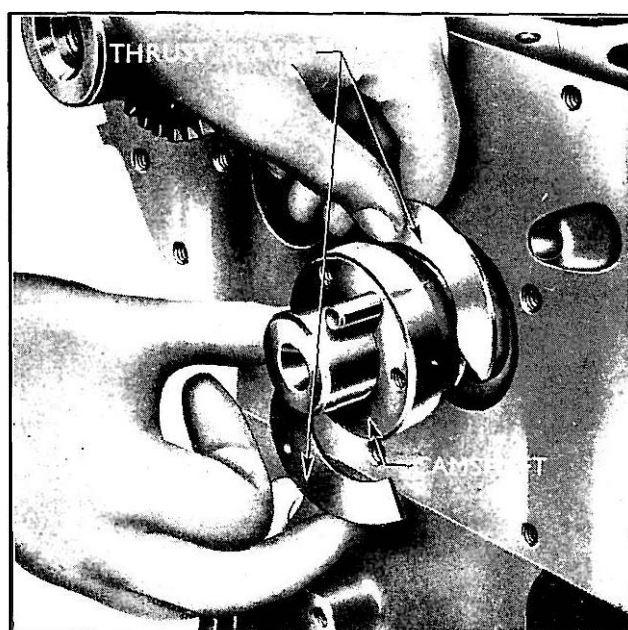

Fig. 39
- 4 Before the camshaft is pushed fully home, fit the camshaft thrust plate in its groove and as the camshaft is pushed home, ensure that the dowel in the upper half of the thrust plate enters the hole in the block. (See Fig. 39.)